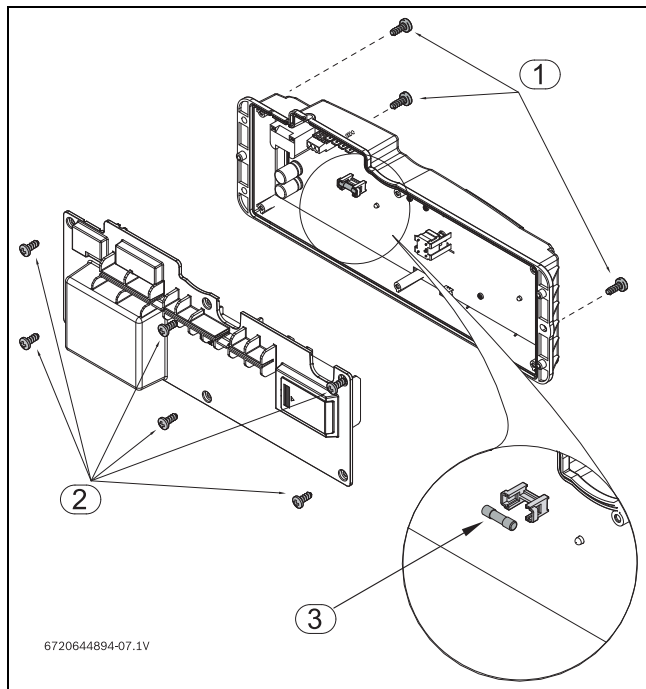

Fig. 44 Fuses position
- ▶ Remove the six screws from the back cover of the control unit, see fig. 44, pos. 2.
► Check the fuses in the printed circuit board, see fig. 44, pos. 3.